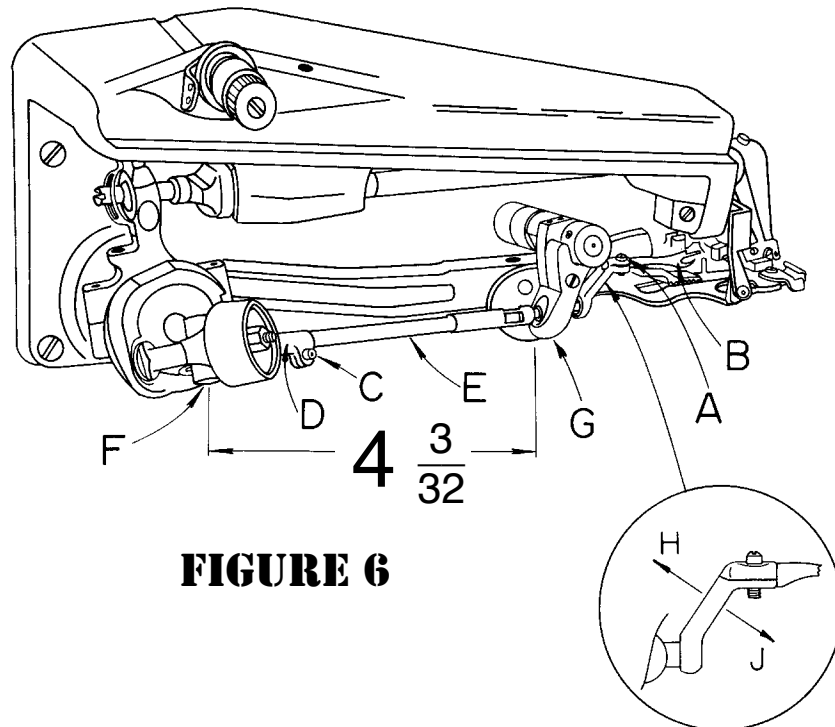

FIGURE 6
1. Should it become necessary to replace the looper (*item "B" in Figure 6*), loosen the looper clamp screw (*item "A" in Figure 6*) and remove the old looper. Because of the precise fit of the looper in the looper rod it may be necessary to exert a moderate amount of force to pull the looper out. Insert the new looper into the end of the rod as far as it will go before bottoming on the looper shoulder.
3. To adjust the looper so that the timing checks out as noted in paragraph 2, it may be rotated within its clamp by a limited amount. This adjustment should be made with the looper clamp screw (**item "A" in Figure 6**) loosened, and the looper bottomed against its shoulder. Do not move the looper in or out, and do not attempt to force the looper to turn beyond the limited amount of travel available.
4. If the adjustment described in paragraph 3 is insufficient to provide the correct timing, it will be necessary to turn the looper rod (**item "E" in Figure 6**) itself. This may be accomplished by loosening with looper rod clamp screw (**item "C" in Figure 6**). The rod is then free to turn in the looper rod fork (**item "D" in Figure 6**). It will normally be necessary to make only a very small adjustment in order to get the looper into the correct rotational position for proper timing. If, for any reason, the rod has been removed or the basic setting of the looper rod has been disturbed by a large amount, it may be reset by noting that the distance from the center of the looper rod fork pin (**item "F" in Figure 6**) to the rear face of the looper rod ball (**item "G" in Figure 6**) is normally $4 \text{ } \& \text{ } 3/32$ inches (104mm) (**refer to Figure 6**). If the rod is set to this dimension then only minor adjustment will be required to bring the looper into the correct timing position. Note that this dimension is merely a guide to assist in setting a rod and variations may be expected from machine to machine.
For adjustment, refer to insert illustration (**Figure 6**). To widen looper sweep, ***flex or bend looper crank*** in direction of arrow "H".